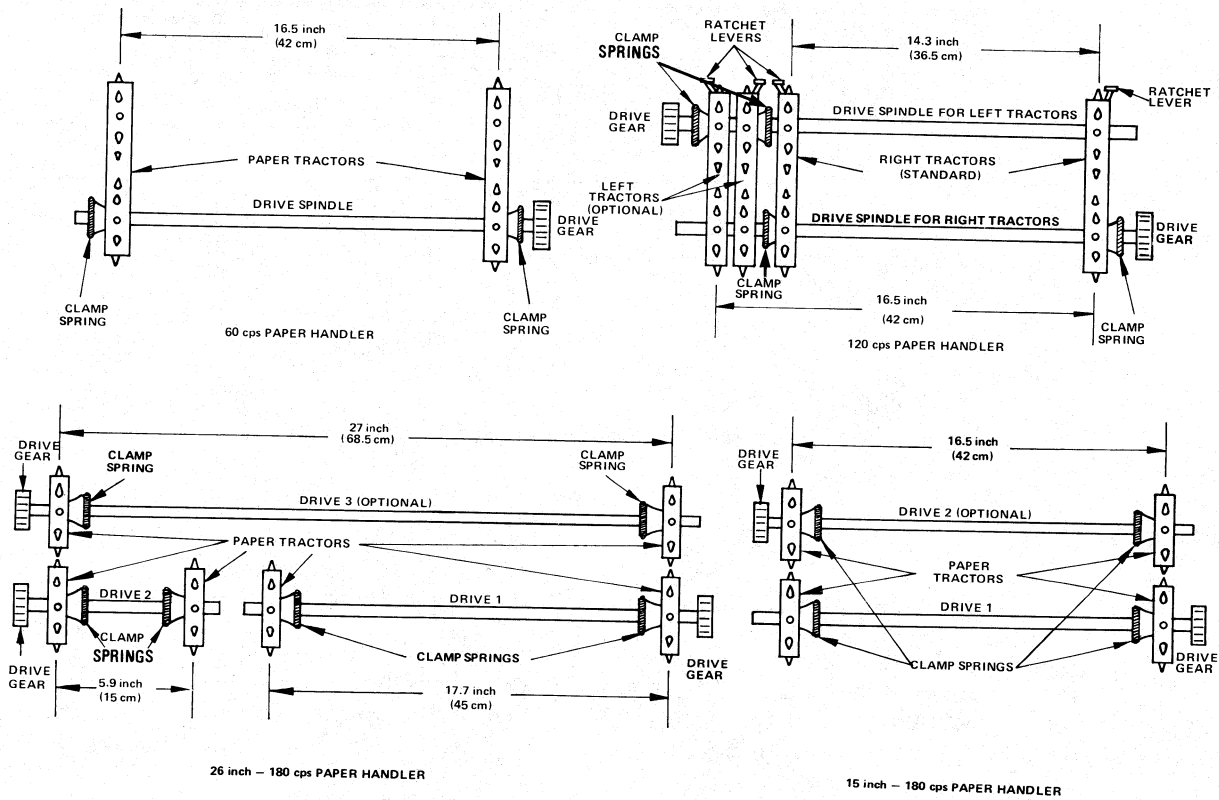

Figure 2-10. Pin-feed Drive Locations
- the Print Position Scale on the rear of the Paper Handler, and then reset the Clamp Springs (and release the Ratchet Lever) to hold the Tractors in position. The location of the Clamp Springs and Ratchet Levers is illustrated in figure 2-10.